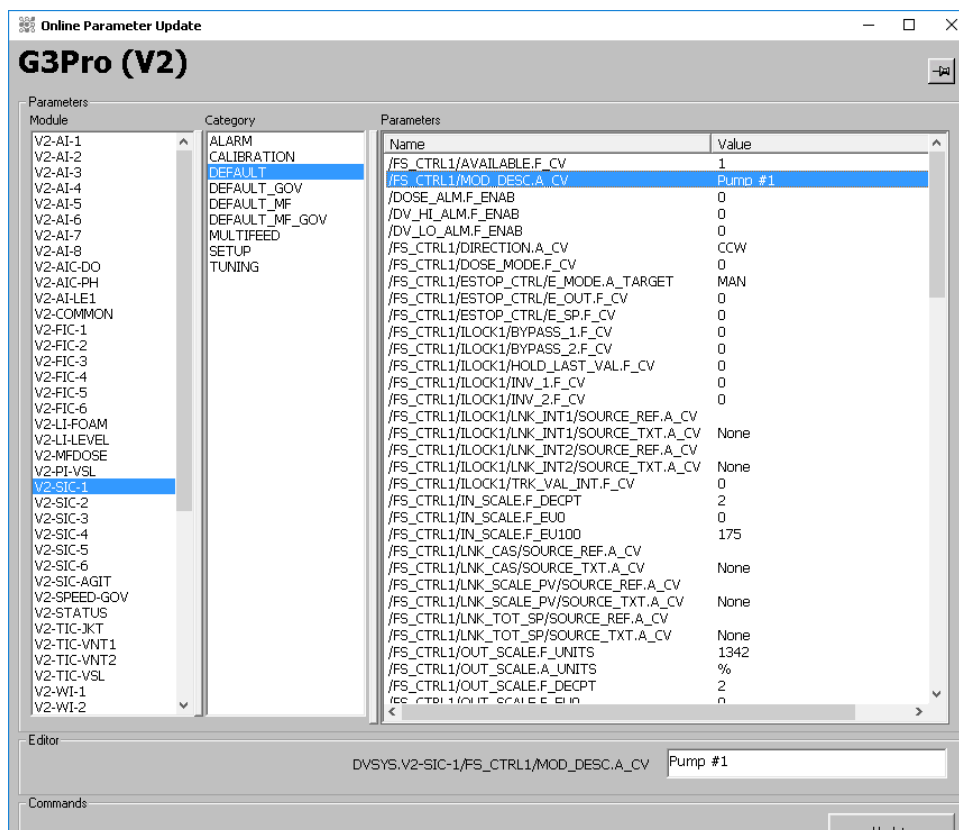

Figure 1.29. Online Parameter Update screen for pumps.
1. From the Configuration screen, click **Online Parameter Update**. This opens the display shown in Figure 1.29. Refer to Figure 1.29 for the following steps.
2. Verify that the correct vessel is displayed (Figure 1.29 shows “Vessel 2”) and click **Default** in the “Category” column (see the second column in Figure 1.29).
3. In the “Module” column (first column in Figure 1.29), locate and click the string that reads **Vy-SIC-x**, with y being the vessel number and x being the pump number to be set up.
5. In the “Parameters” column (third column in Figure 1.29), locate and click the Name string, **/FS_CTRL1/AVAILABLE.F_CV**.